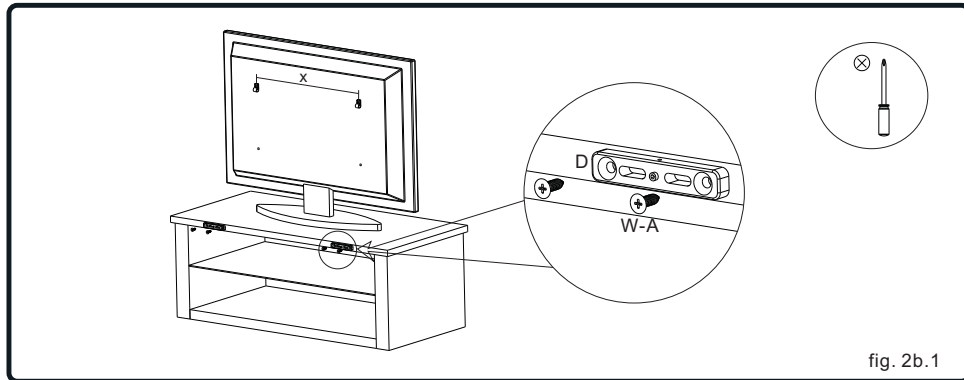

fig. 2b.1
- Tighten the screws on the locking bar with a proper screwdriver, but do not over tighten as shown in fig.2b.1.